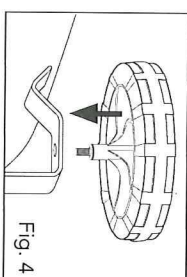

Fig. 4
4. Insert the axle bolt through the hole in the wheel bracket on the underside of the tank (Fig. 4).